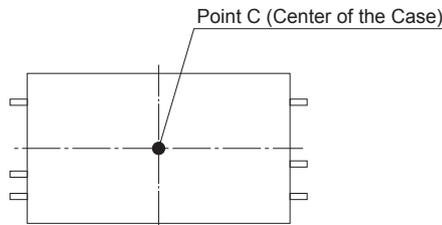

Fig.7.6 Temperature Measuring Point in the case of Forced Air Cooling (Upper Surface of the Case)
② SUC6
■ In the case of forced air cooling (1m/s), please have sufficient ventilation to keep the temperature of point C in Fig.7.6 at 95°C or below.